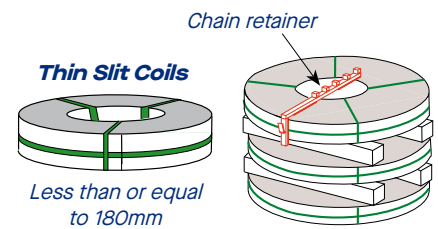
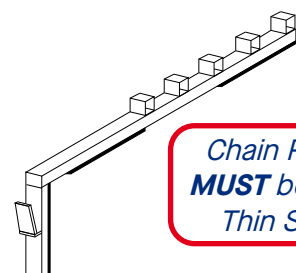

Fig 1.1: Thin Slit Coil example configurations & chain retainer.
Fig 2.4: Chain Retainer for restraining Thin Slit Coils.
- ✓ **A Chain Retainer MUST be used on ALL stacks where the top coil is a Thin Slit Coil** to stop the anti-rotation chain from falling between the thin slit coils. Figures 1.1, 3.2, 3.14 & 3.18 show thin slit coils with Chain Retainers. Figure 2.4 shows the chain retainer.